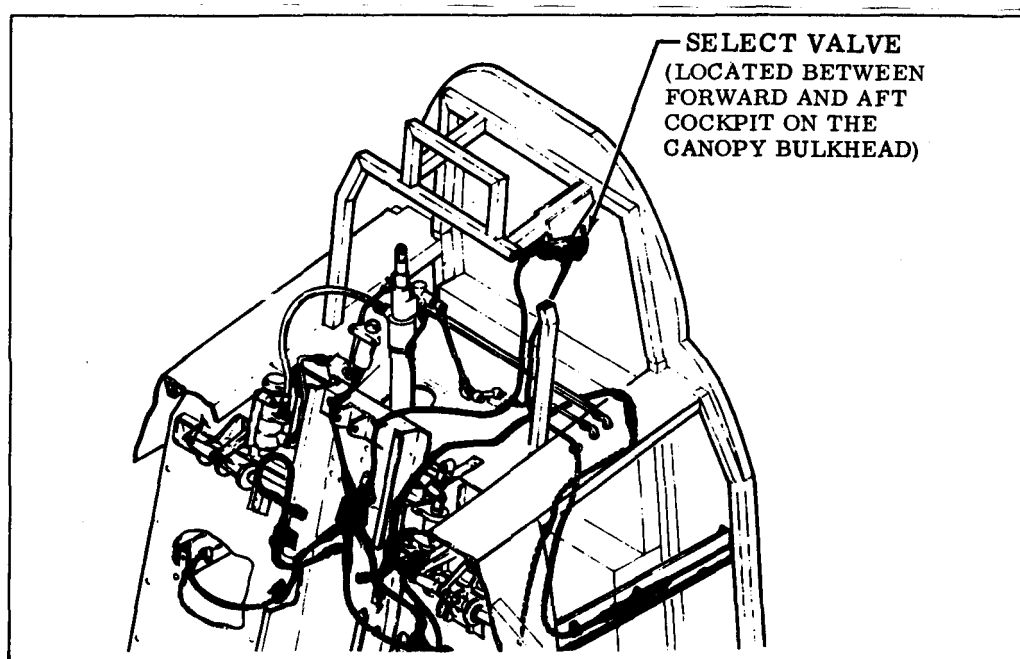

Figure 8-10. Pilot select valve.
7. If the time release mechanism fails, release of the occupant from the seat is accomplished by the use of the emergency release handle which releases the restraint harness and fires the guillotine cartridge. The F-4 series aircraft have a system whereby either pilot can eject himself or both seats. This accomplished by a select valve in the aft cockpit (see figure 8-10) and by adding two each sequence actuators, initiators, and boosters.